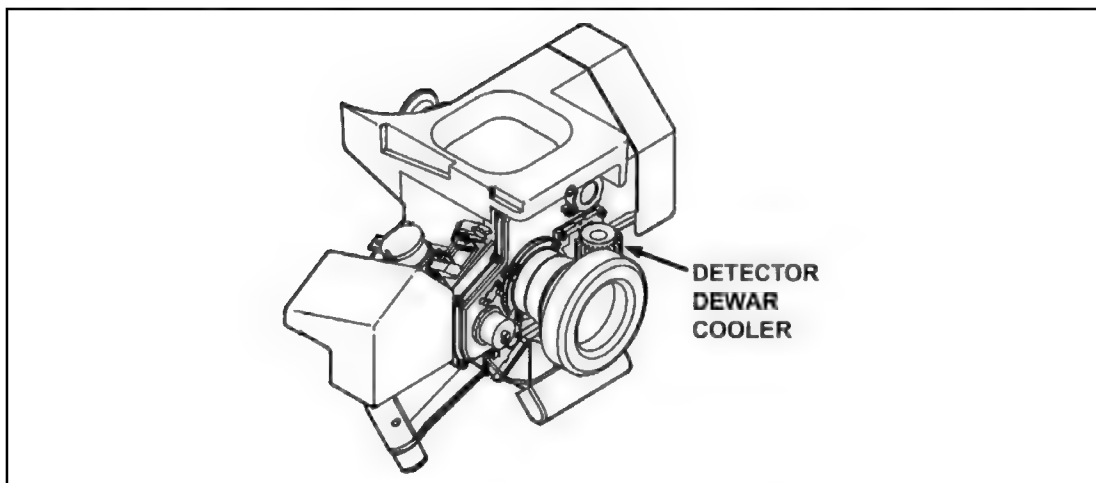

Figure 1-12. Detector Dewar cooler.
(1) Detector Dewar cooler (DDC) (Figure 1-12) cools the NVS to the proper operating temperature and converts infrared energy to electrical signals. These signals are sent to the CLU display by way of the signal processor to provide the gunner a picture of the target area.